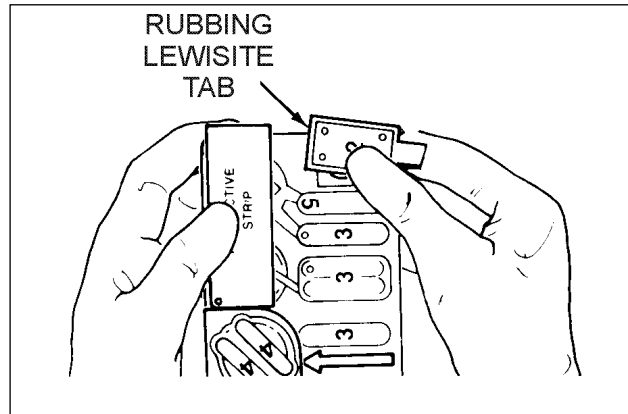

Fig 4-13. Rubbing lewisite tablet.
- (4) Mark the lewisite rubbing tab.
- (b) Rub the upper half of the tab until a mark is visible (fig 4-13).